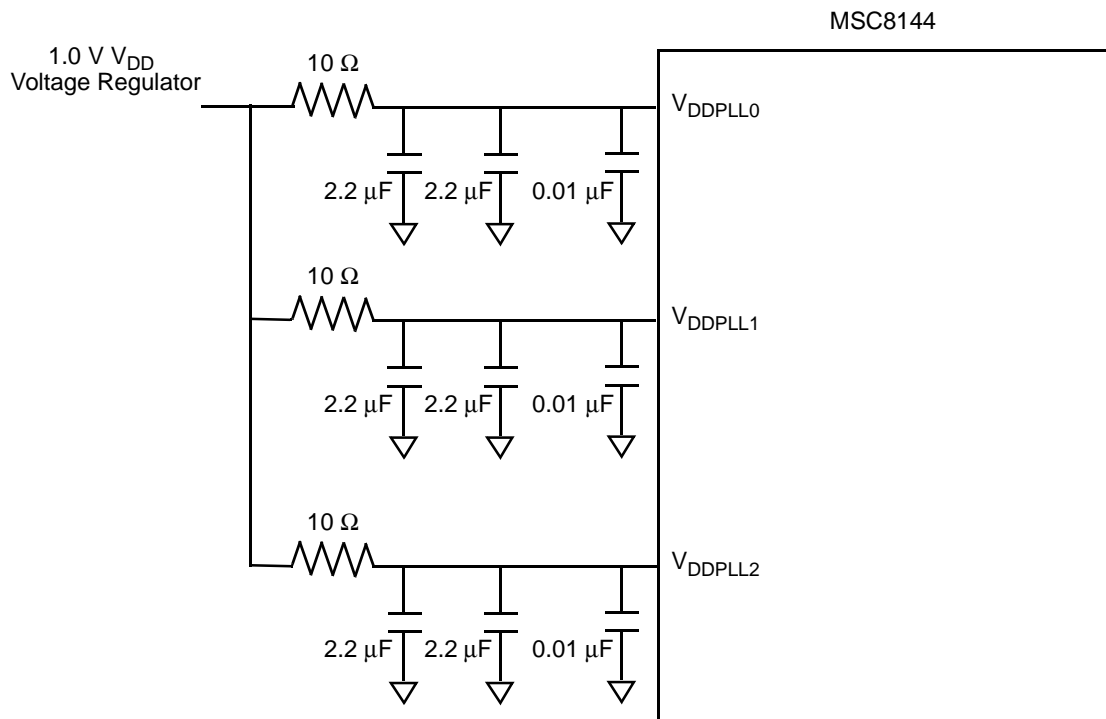

Figure 2. PLL Supply Filters on the MSC8144ADS
- Core PLL Filters for V_{DDPLLx} on the MSC8144ADS. An RC Filter consists of a 10 Ω resistor and 2.2 μF and 0.01 μF low ESL, low ESR capacitors connected to a single V_{DD} with an RC Filter connected to each V_{DDPLLx} separately. Put RC filters as close to the V_{DDPLLx} pads as possible (see **Figure 2**).